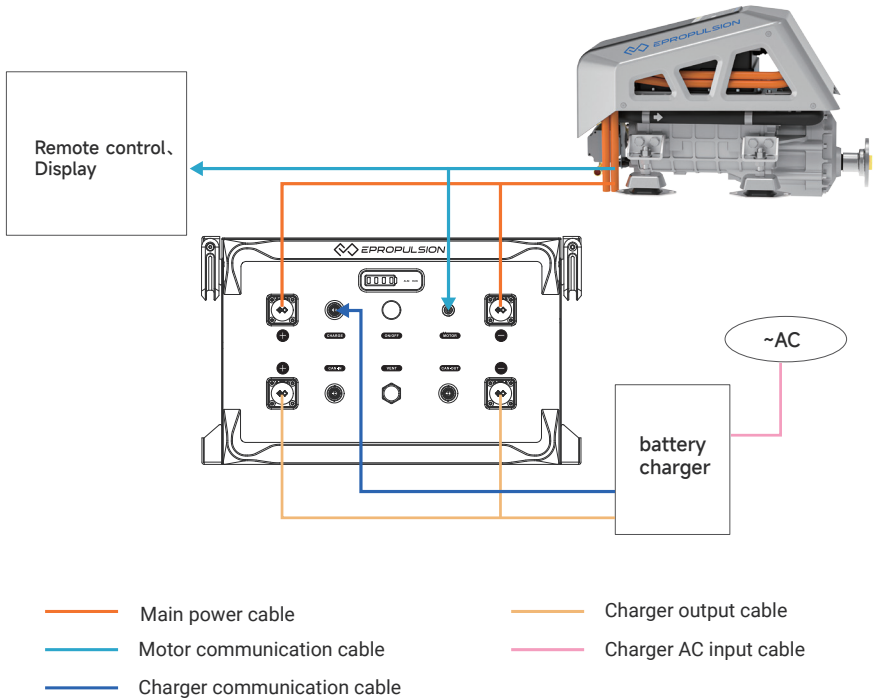

Figure 2-1
2. Connect the battery to the machine, smart throttle and display panel with the communication cable of the control system (refer to figure 2-1).